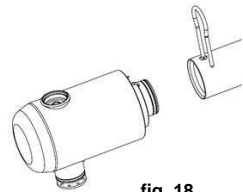

fig. 18
- Remove garnishing nozzle and remove locking device from air regulation. Turning lightly pull cream whipping assembly out of its housing. (fig. 18)
- With the locking device, push in the locking bolt and with light turns, pull away the outlet part. (fig. 18)